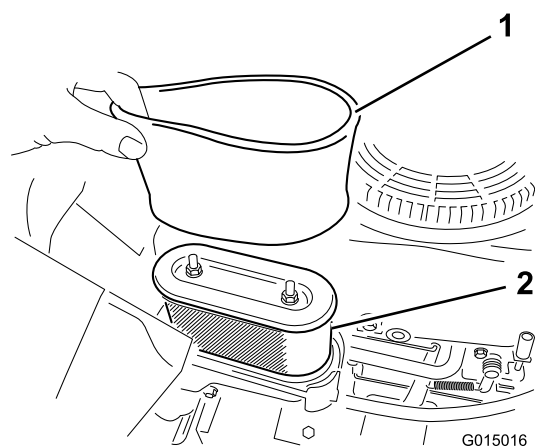

Figure 21
6. Carefully remove the foam and paper filter elements from the air cleaner housing (Figure 21).
5. Align the tabs on the air cleaner cover with the slots of the blower housing (Figure 21).